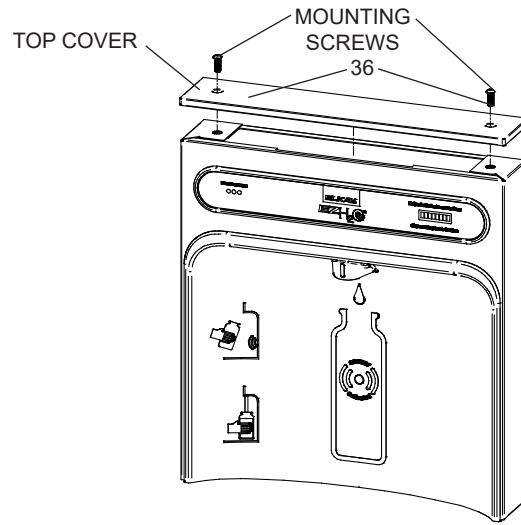

Fig. 6
- 9) Once Bottle Filler is installed on wall plate tabs, water line and power cord are installed properly, push top of Bottle Filler toward wall and line up top cover two (2) holes.
- 10) Reinstall Top Cover on Bottle Filler (See Fig. 6) with two mounting screws from step 1 above. Caution, do not over tighten screws.